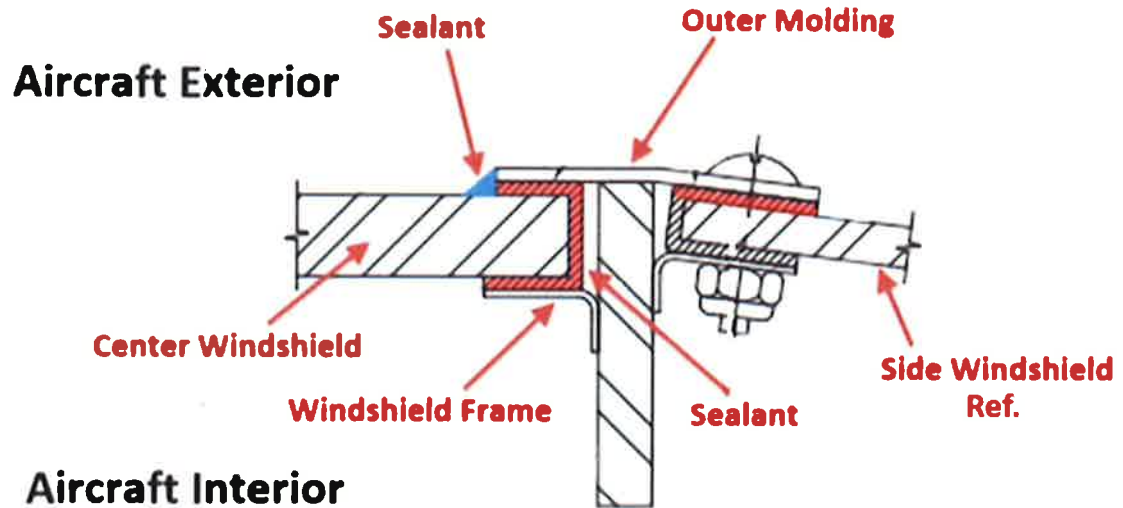

Figure 8-3: Windshield Installation Cross-Section
- 3.1. Reference Figure 8-3 for correct application of windshield sealants.
- 3.4. Apply sealant to edges of side windshields that may have been exposed by the removal of windshield moldings, reference Figure 8-3. (Be sure to follow sealant manufacturer instructions to ensure proper curing.)
- 3.9. Apply sealant where moldings meet center and side windshields, reference Figure 8-3.